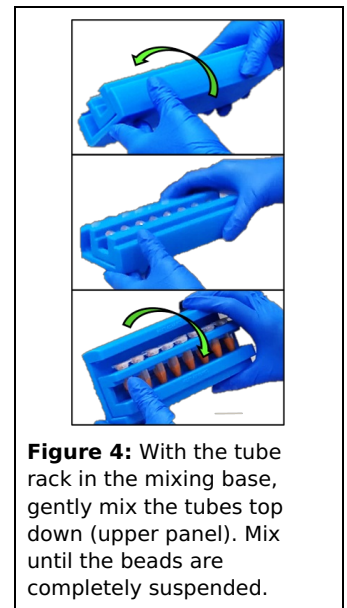

Figure 4: With the tube rack in the mixing base, gently mix the tubes top down (upper panel). Mix until the beads are completely suspended.
- Add 700 μ L of Wash Buffer 1 to the tubes and then place the tube rack in the mixing base. Mix thoroughly by inversion, ensuring all beads have been detached from the tube walls and evenly suspended (Figure 4).